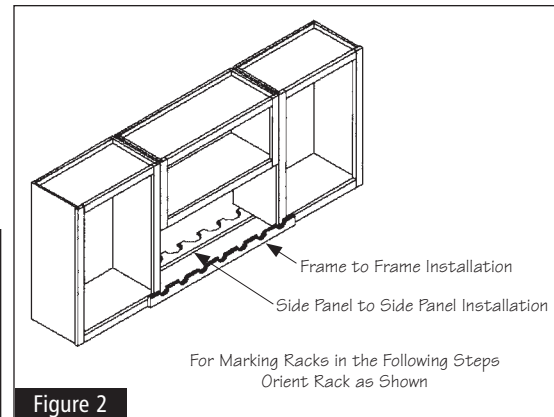

Figure 2
**ATTENTION:** Determine whether the Front Rack will be installed between the cabinet frames (see Figure 1A) or between the side panels (see Figure 1B). This choice is a matter of personal preference. When installing between the cabinet frames, use the cabinet frames in the following steps to mark the back of the Front Rack. Otherwise use the cabinet side panels to mark the back of the Front Rack (see Figure 2). The Back Rack will always be installed between the cabinet side panels.